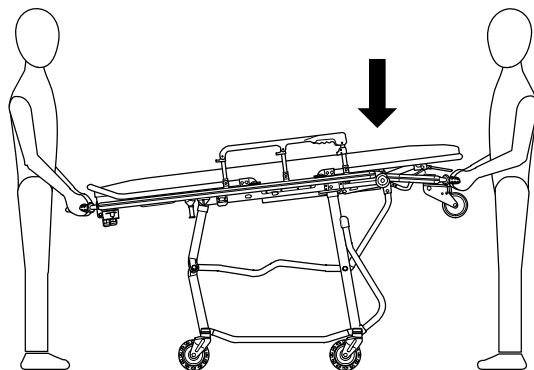

Figure 21 – Lowering the Cot to the Folded Position
1. To lower the cot from its loading position to its folded position, two operators stand at opposite ends of the cot and grasp the litter frame with palms facing up (as shown in Figure 21).